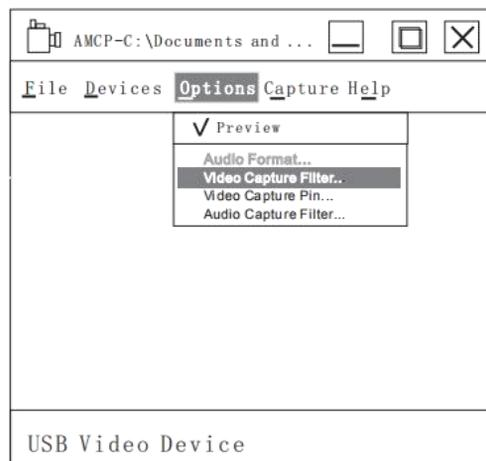

Fig.11 Video capture filter
(3) Set image display parameters
- Select “Options” and “Video Capture Filter”, as shown in Fig.11.